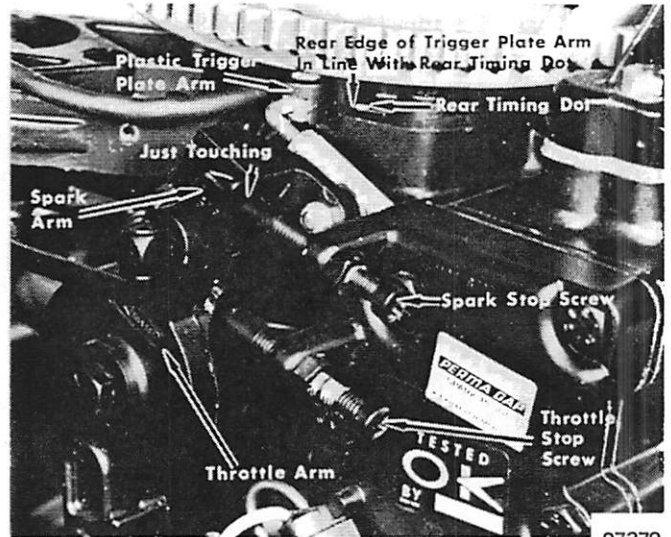

Figure 3. Adjusting Spark Stop Screw
3. Hold spark arm against spark stop screw. Adjust spark stop screw to position rear edge of trigger plate arm in line with rear timing dot (located on upper end cap under flywheel). Tighten locknut after adjustment. (Figure 3)